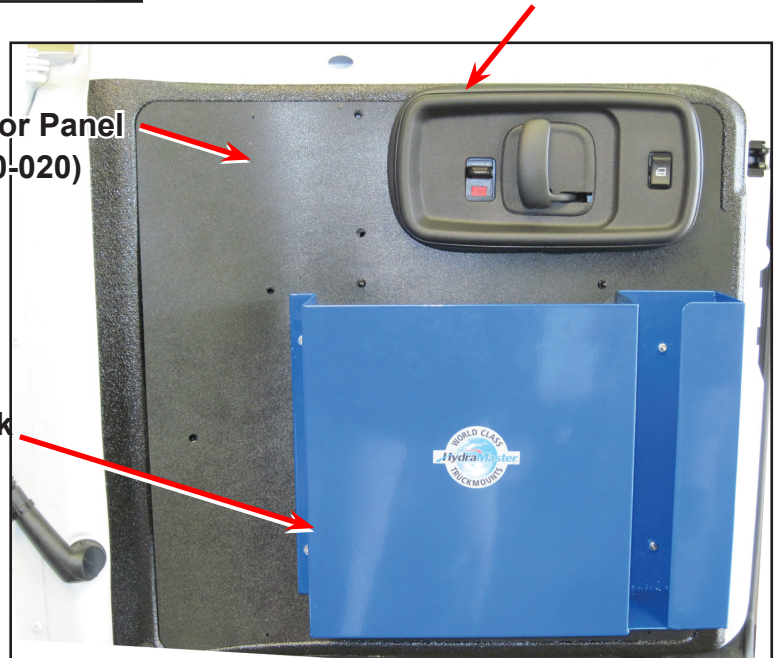
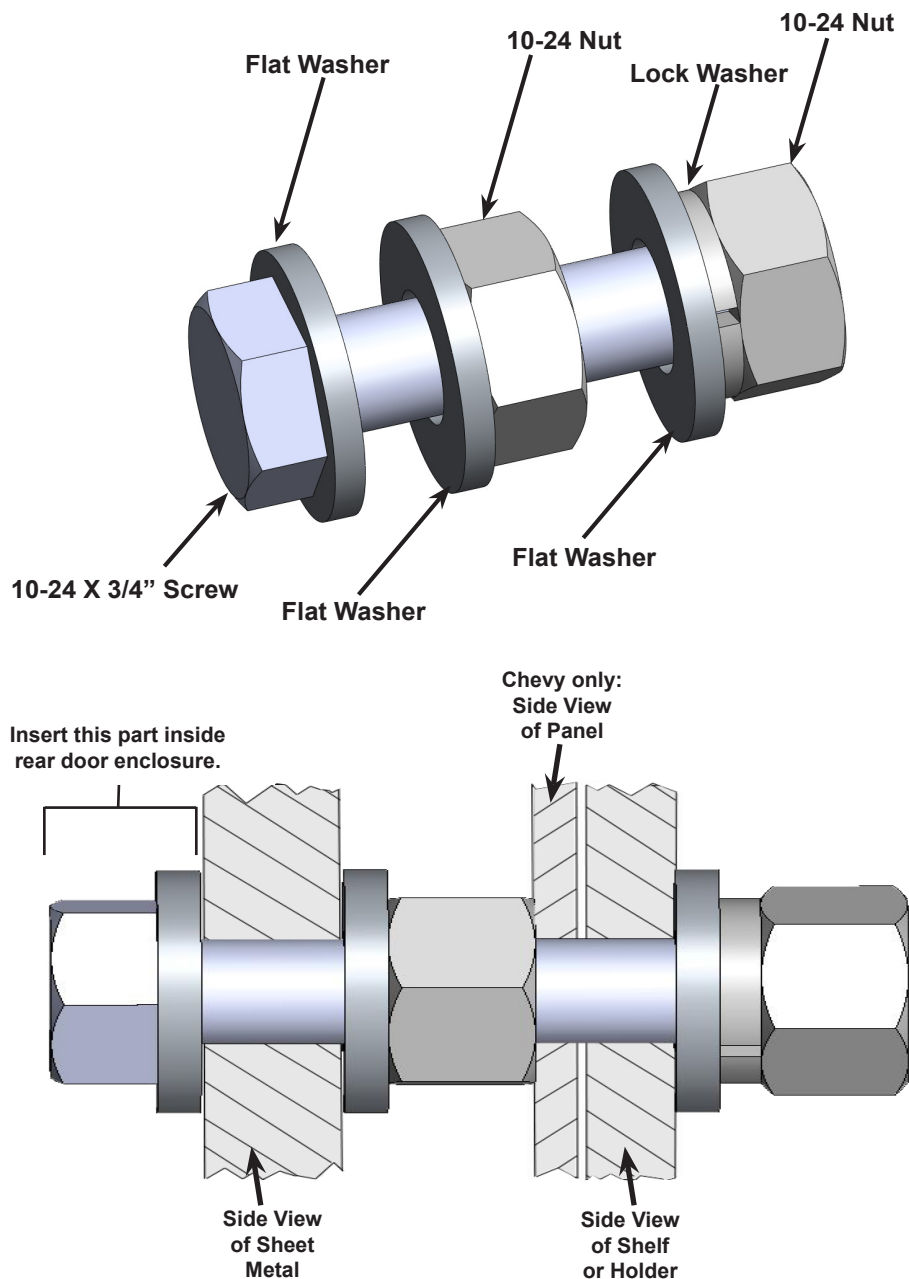

Figure 47. Location of Shelf and Furniture Pad/Snap Block on Back Doors
Figure 48. Install Fastening Hardware in This Order, Starting from Left
1. Dry fit the Panels, Back Door Shelf and the Furniture Pad/Snap Block onto the van's back doors, and mark where the holes should be drilled (see Figure 47).
4. Install the Left Hand Door Panel and the Back Door Shelf Kit (P/N 000-163-050) onto the left hand door, using the fastening hardware included in the kit (see Figure 48).
Mount the fastening hardware onto the 10-24 X 3/4" screw in the order shown in Figure 48 and install as shown in Figure 47.
5. Install the Right Hand Door Panel and the Furniture Pad/Snap Block Kit (P/N 000-163-015) onto the right hand door, using the fastening hardware shown in Figure 48.
Make sure the hardware fastens through the Back Door Shelf, the Furniture Pad and the Panels as shown in Figure 47.